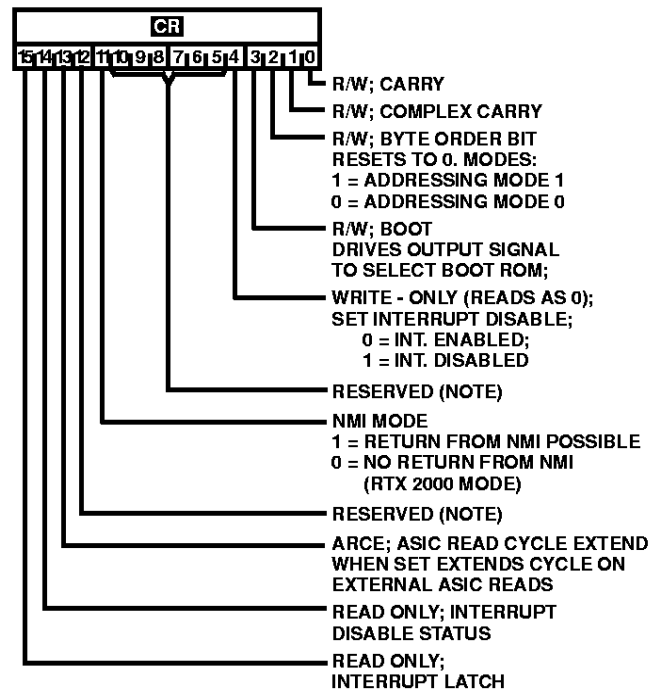

FIGURE 3. **CR** BIT ASSIGNMENTS
**CR**: The Configuration Register is used to indicate and control the current status/setup of the RTX microcontroller, through the bit assignments shown in Figure 3. This register is accessed explicitly through read and write operations, which cause interrupts to be suppressed for one cycle, guaranteeing that the next instruction will be performed before an Interrupt Acknowledge cycle is allowed to be performed.